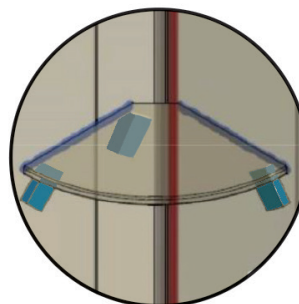

FIG 17.
- Carefully place shelf on stabiliser blocks and gently push into corner. Check for level (FIG 17).